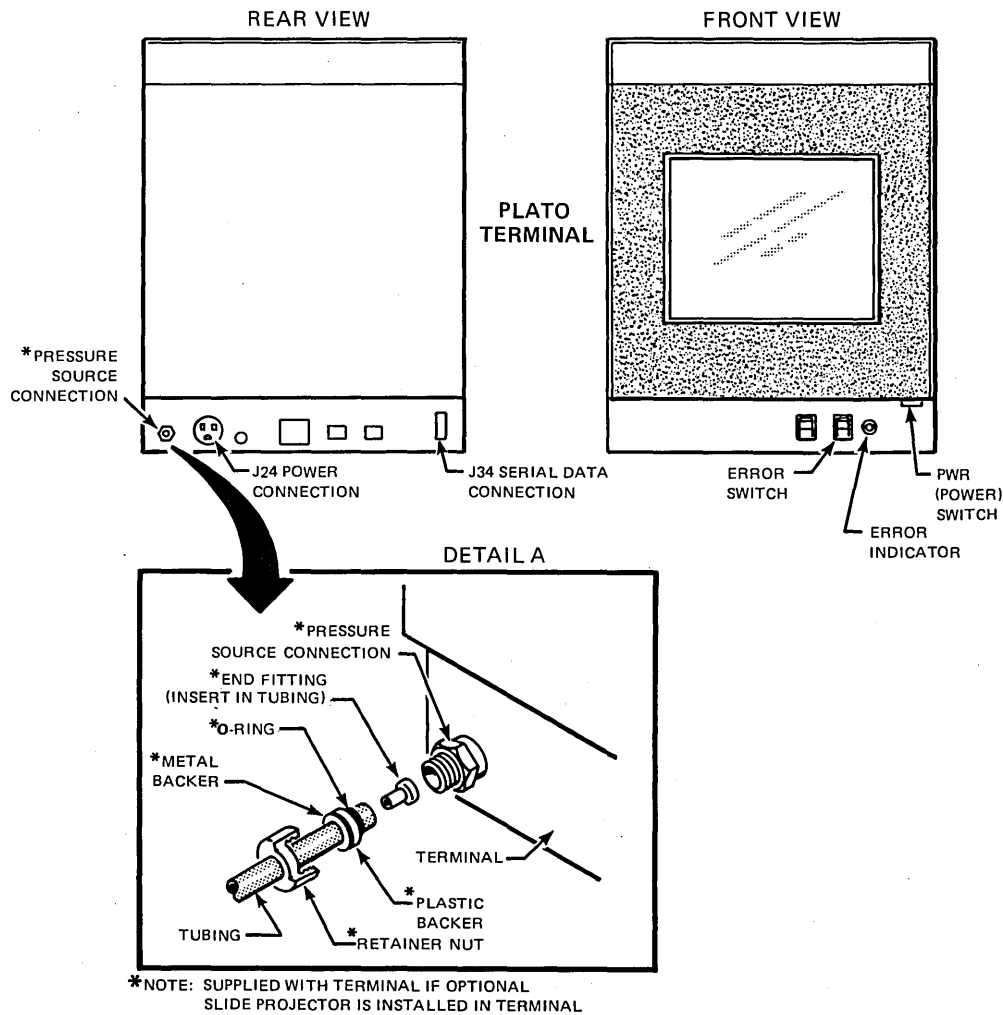

Figure D-5. Installation Elements
The following procedure describes the installation of the plasma terminal (figure D-5).
- b. Install one end of tubing to terminal according to detail A of figure D-5.
2. Set terminal PWR switch to ON (refer to figure D-5). When power is applied, fan begins running and perimeter of screen lights.